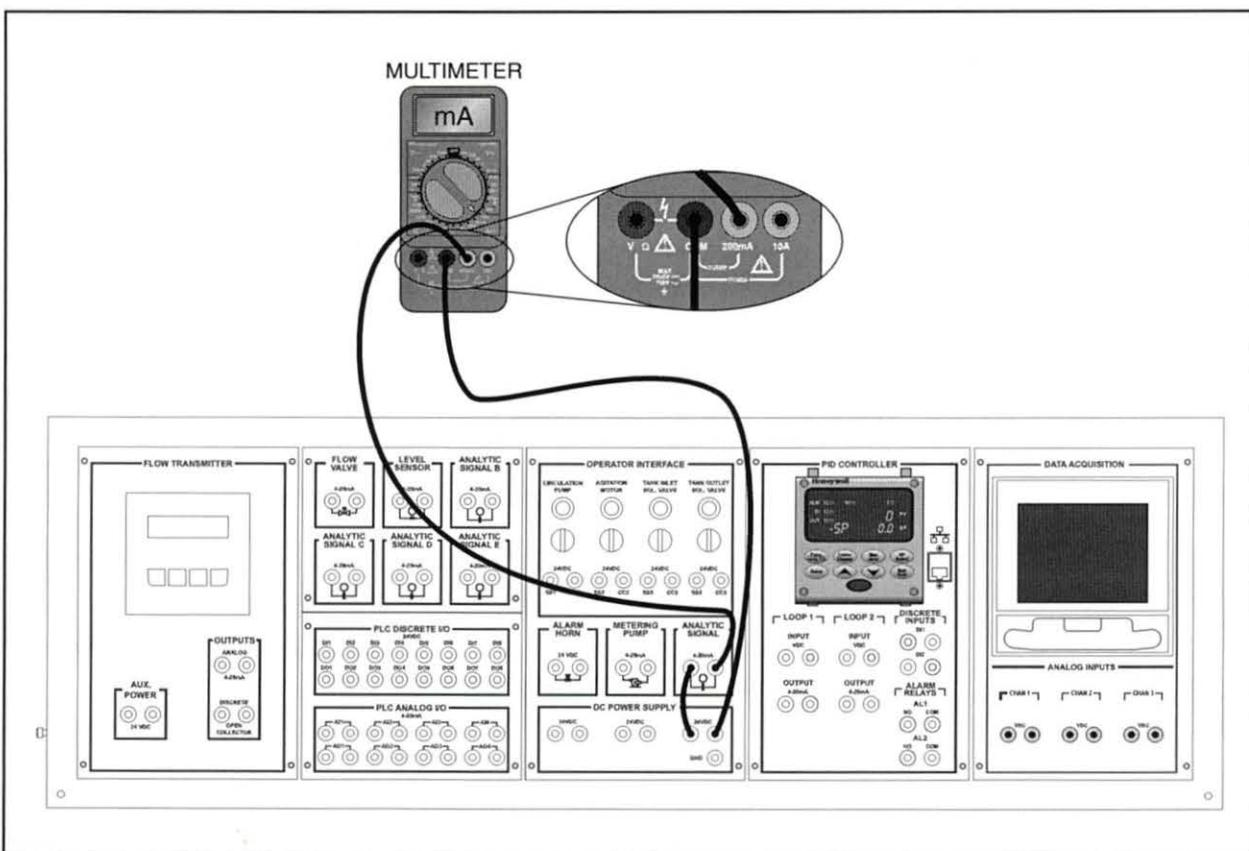

Figure 42. Circuit to Measure Output of the Transmitter
- ❑ 2. Connect the circuit shown in figure 42 on the control panel of the T5554.
This circuit connects the sensor module to the 24VDC power supply and connects a multimeter to measure the output signal from the transmitter of the sensor module. The multimeter should be set to measure DC millamps (DC mA), as figure 42 shows.